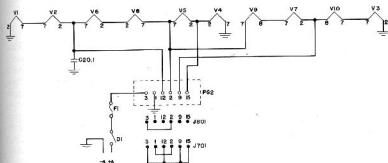

Fig. 32. Radio Receiver BC-683-A: Functional Diagram of the Heater Circuits
k. Vacuum Tube Heater Circuits. A functional diagram of the vacuum tube heater circuits in the receiver is shown in Fig. 32.